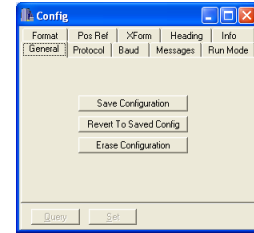

Figure 3. General Tab
8. Select the "General" tab (Figure 3).